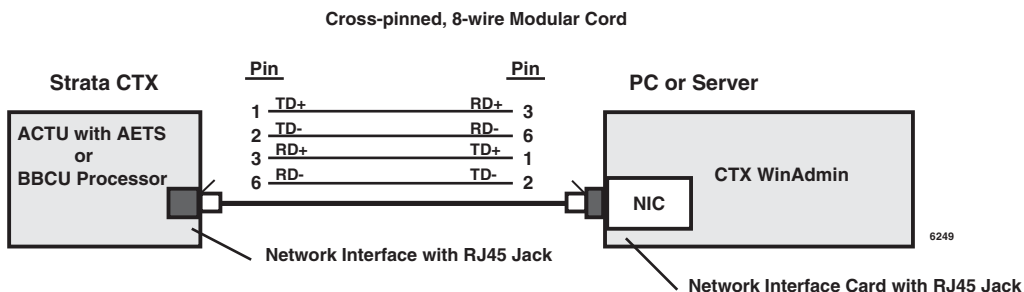

Figure 3-1 Direct Connection to Strata CTX
1. Connect the RJ45 cable between your PC's NIC jack and the Strata CTX Network Interface jack. If you are connecting to Strata CTX directly without using a Network hub, use an RJ45 cross-pinned cable. If you're connecting to the Strata CTX via a hub, use a straight-pinned RJ45 cable. See Figures 3-1 and .